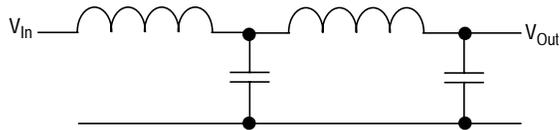

Figure 8. Multistaging Filtering
- Use high-frequency, low-inductance ceramic capacitors for integrated circuit (IC) decoupling at each power pin (0.1 μ F for up to 15 MHz, 0.01 μ F over 15 MHz).
- Use multistage filtering to attenuate multiband power supply noise as shown in **Figure 8**.